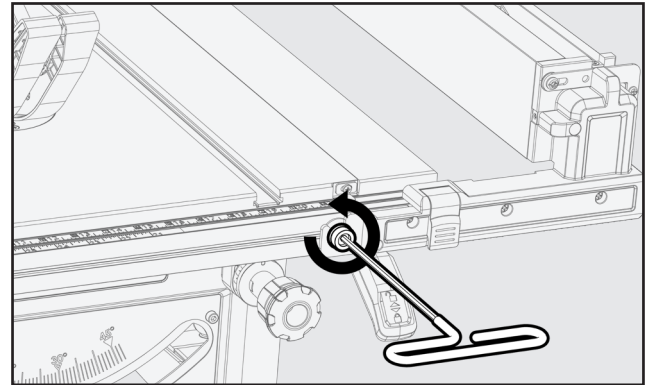

Figure 46
4. Using Supplied 4mm Allen wrench in a counter-clockwise motion, loosen both front and rear extension tabs. See Figure 46.